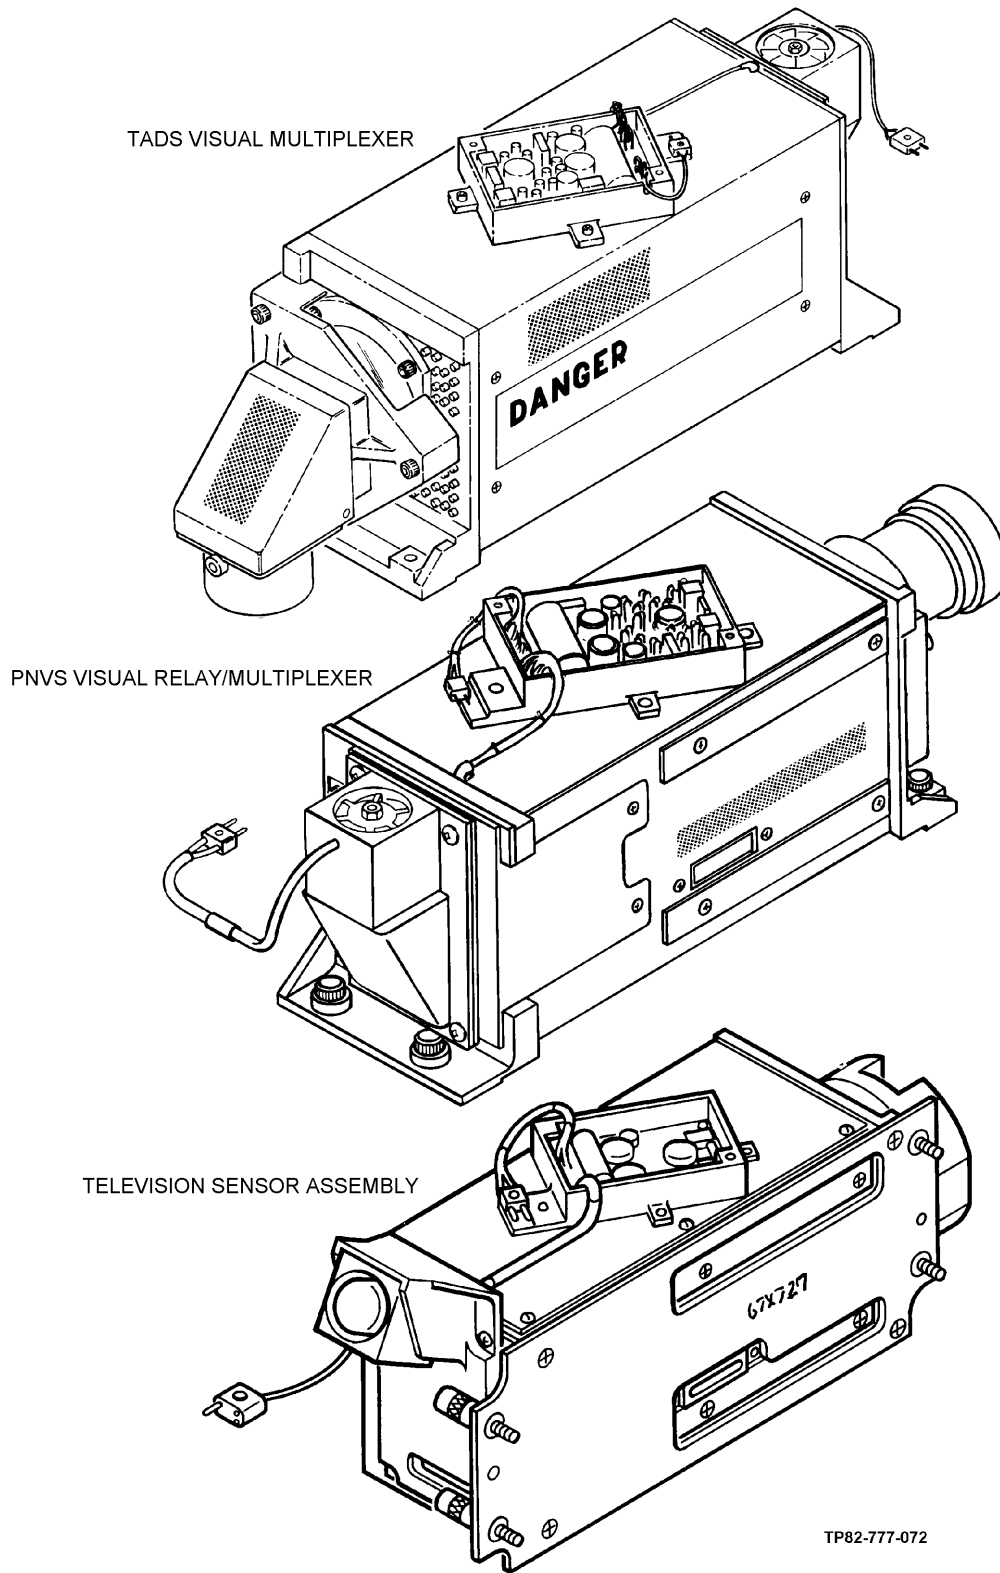

Figure 7-1. Television Sensor Assembly, Visual Multiplexer Assembly, and Visual Relay/Multiplexer Assembly
- a. **Television Sensor Assembly.** The television (TV) sensor assembly (figure 7-1) is an LRU of the TADS day sensor assembly. It is a small TV camera that creates TV images of target scenes and converts them into electrical signals used for target acquisition and tracking. Major assemblies of the TV sensor assembly are shown in the figure.
- b. **Visual Multiplexer Assembly.** The visual multiplexer assembly (figure 7-1) is an LRU of the TADS night sensor assembly. It is a small TV camera with a special right-angle lens. It converts an optical image created by an LED array into a video image that is converted into a TV signal by other equipment. Major assemblies of the visual multiplexer assembly are shown in the figure.
- c. **Visual Relay/Multiplexer Assembly.** The visual relay/multiplexer assembly (figure 7-1) is an LRU of the PNVS turret. It is identical to the TADS visual multiplexer assembly, except that the special lens is not a right-angle lens. It serves the same purpose to the PNVS equipment as the visual multiplexer assembly does to the TADS equipment.